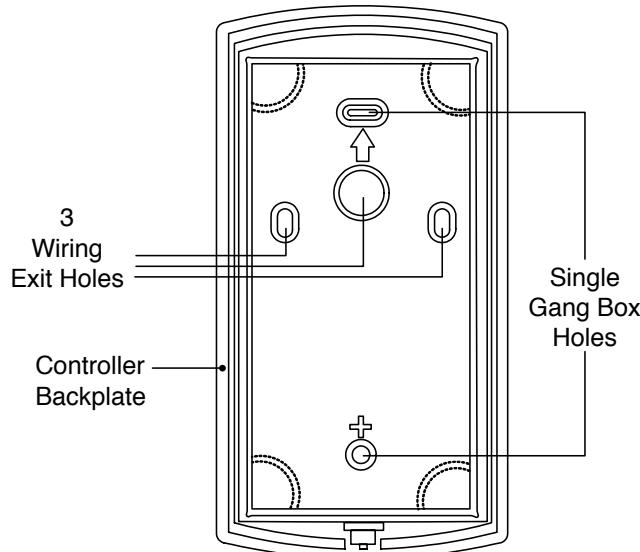

Figure 2 Backplate
Figure 2 illustrates the backplate on the WM800 unit used for wall mounting. Two single-gang box holes align with two corresponding holes in the single-gang box. A wire exit knockout is supplied through which the WM800 wiring is pulled.
2. Punch out the two holes for single-gang box connectors (Figure 2) on the controller backplate of the WM800 unit. Punch out wiring exit hole(s) as required.
5. Refer to the Wall Mount Installation instructions and Figure 2 for backplate and communication board installation.